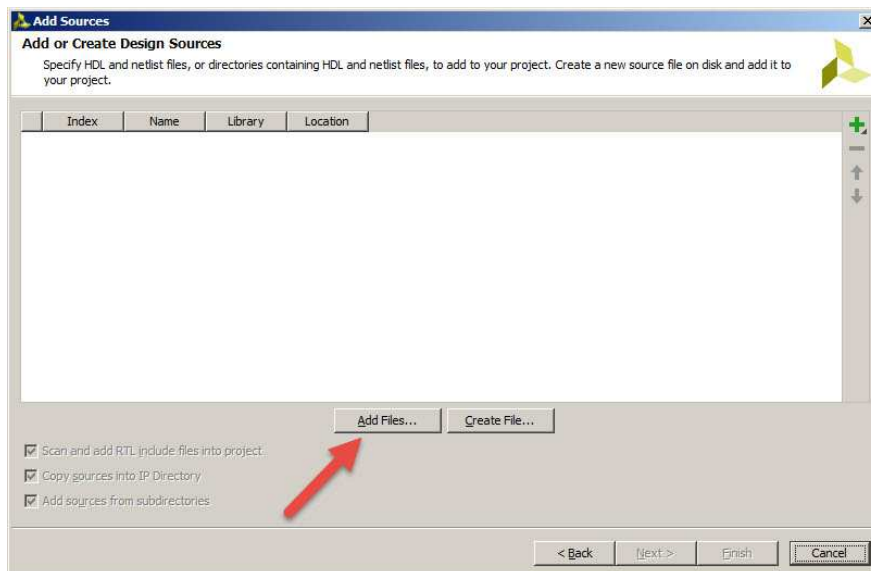

Figure 21: Add Files
2. On the next window (**Figure 21**), click “Add Files”